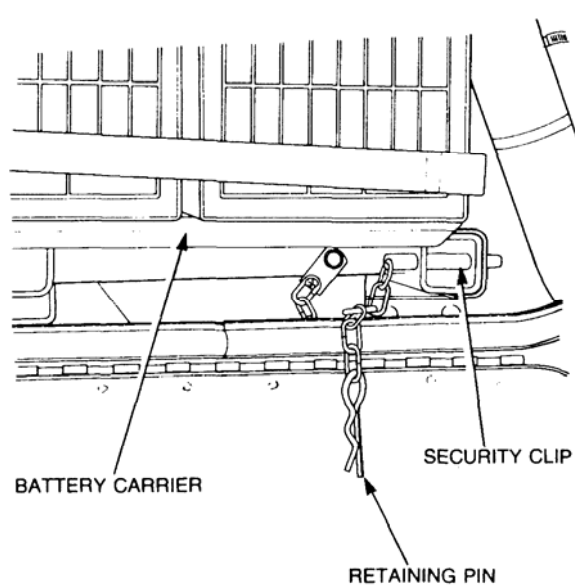

Figure 7 Left Side Battery Compartment
- b. Remove the security clip and pin from the left hand battery carrier (refer Figure 7).